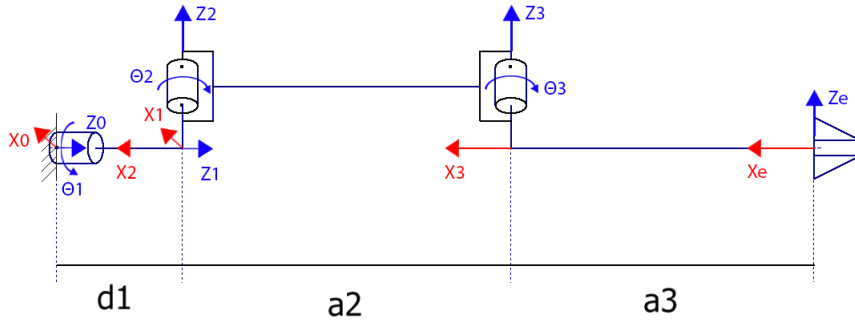

Figure 1: Illustration of considered robot, including kinematic parameters and reference frames.
An illustration of the robot is shown in Figure 1 that includes the kinematic parameters specified in Table 1. The figure also show position vectors for the center of mass of each joint; the coordinates of the center of masses are specified in (1).